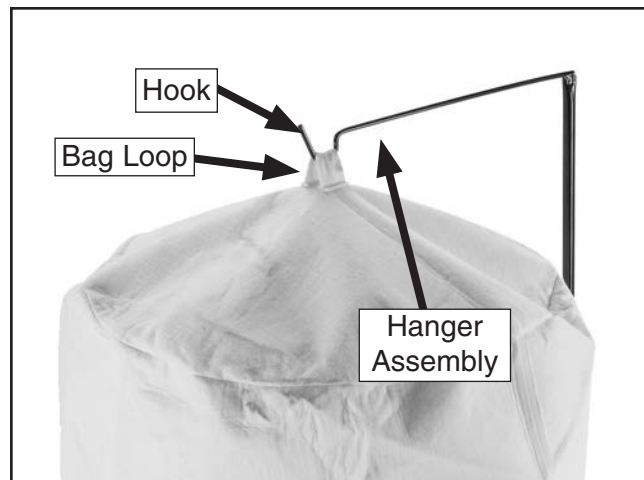

Figure 16. Upper filter bag mounted on hanger assembly.
- Place the loop at the top of each upper collection bag over each hook on the hanger assemblies (see **Figure 16**).